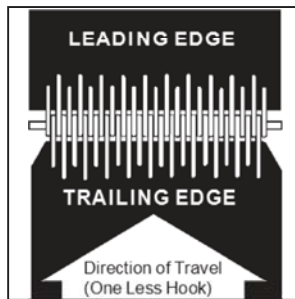

Figure 3
5. CUT CARD TO 1/2" (4 HOOKS) LESS THAN ACTUAL BELT WIDTH, leaving 1/4" on each side of belt unlaced (Fig. 3). The trailing edge should have 1 less hook than the leading edge. This helps prevent the splice from catching on the baler structure.